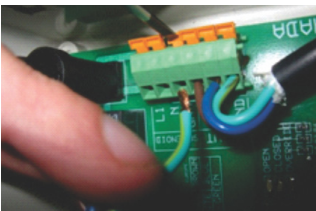

Figure 2
Step 1: Make sure the solenoid module cable is NOT plugged into the electrical outlet. Insert the solenoid valve cable through the center hole of the middle strain relief. Connect the three electrical wires to the terminal block that is marked "SOLENOID" (see Fig. 2). Connect the ground wire in the position marked "GND", the line voltage wire in the position marked "L1" and the neutral wire in the position marked "N". Typical wire colour configurations are marked directly on the circuit board to the left of the SOLENOID terminal block to aid in this process (see Fig.3) If you are unsure of the correct wiring configuration for your particular solenoid valve, please contact an approved electrical contractor. Once all the line voltage connections have been made, tighten the strain relief nut to secure the cable to the solenoid module.